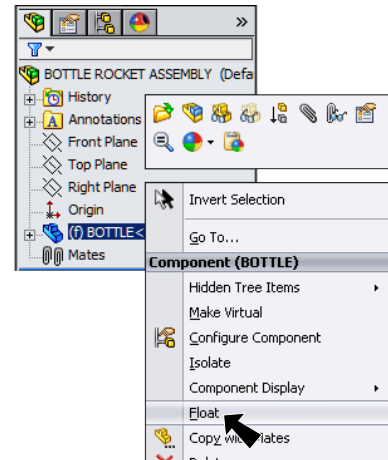

Fig. 2
Step 1. **Right click Bottle** in the Feature Manager and click **Float** from menu, **Fig. 2**.